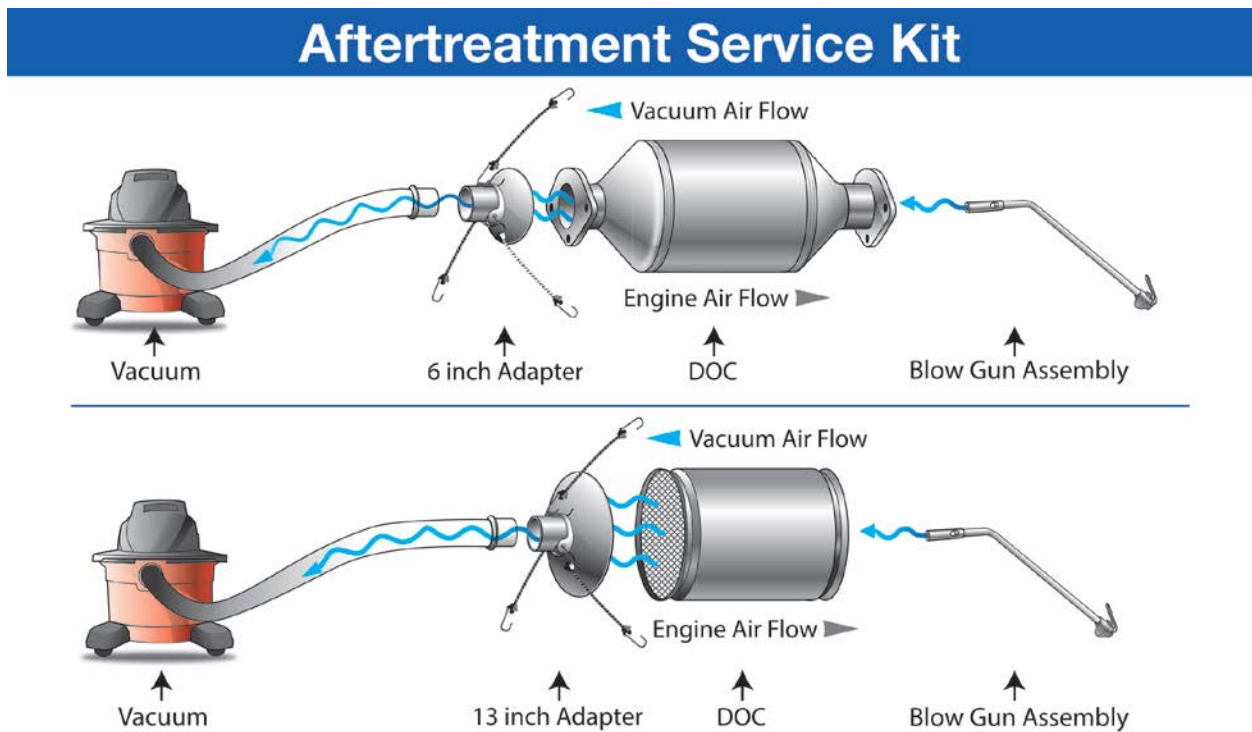

Figure 1.1: *Attaching Kit Components to Two DOC Styles*
4. Using the retaining collar and straps, secure the adapter to the input side of the DOC (i.e., the side closest to the engine; a.k.a. the "dirty side"). See Figure 1.1 on Page 1 of this document.